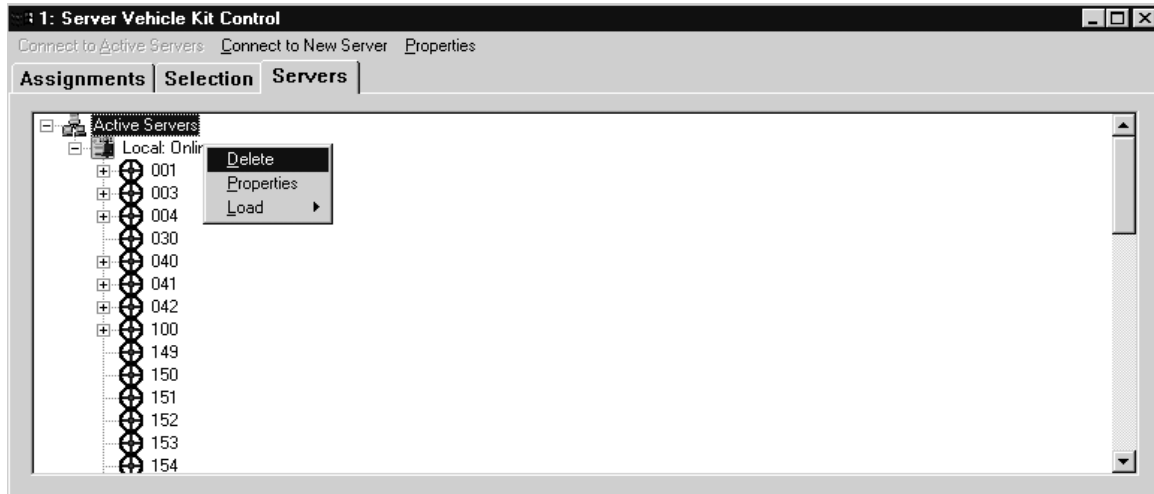

Figure 9-6 Server Vehicle Kit Control – Delete a Server
- (1) Select vehicle. The Server Vehicle Control window is displayed (see Figure 9-6).